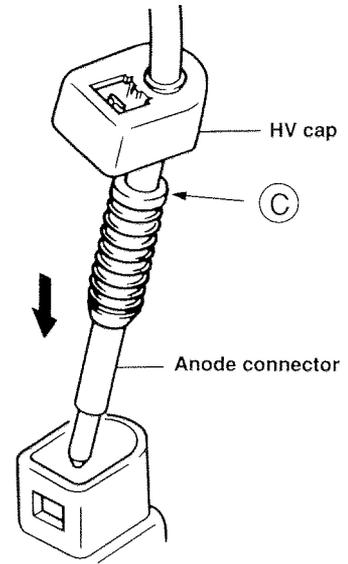

Fig. 7
1. Insert the anode connector deep into the FBT (to section (C) in Fig. 7) and then push the HV cap into the FBT until it clicks.
2. Remove the HV cap and remove the anode connector (Fig. 7).